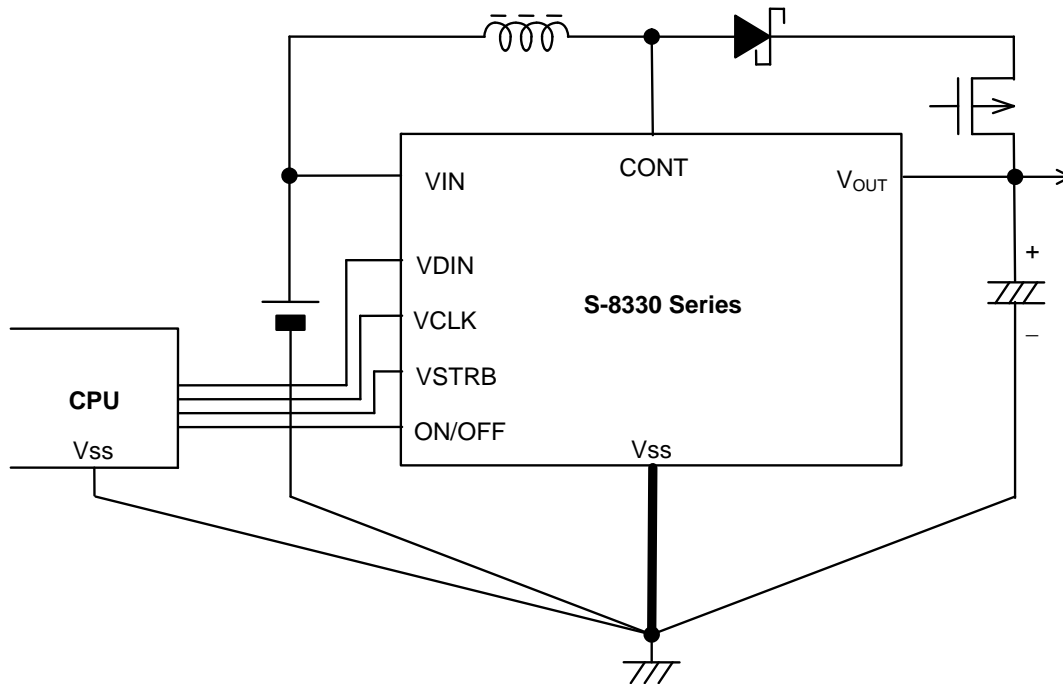

Figure 17 S-8330 Series Application Circuit
- ① S-8331A Series: The switching transistor is externally attached and the oscillating frequency is 180 kHz (typ.). Its target is the output current of 10 mA or more. High output voltage of 30 V or more is available by only attaching a simple external circuit to the S-8331A Series (see the S-8330 Series application circuit shown in Figure 17).
- ② S-8330A Series: The switching transistor is built in and the oscillating frequency is 180 kHz (typ.). Its target is the output current ranging from 1 mA to 10 mA. The oscillating frequency of the S-8330A Series is higher than that of the S-8330B Series. This minimizes ripple and ensures excellent transitory response characteristics.
- ③ S-8330B Series: The switching transistor is built in and the oscillating frequency is 50 kHz (typ.). Its target is output current of 1 mA or less. The self current consumption of the S-8330B Series is less than that of the S-8330A Series. This ensures high efficiency in the output current of about 0.1 mA or less.
- Configure parts and components so that the line to the VSS pin (indicated by the bold line shown in Figure 17) becomes short as much as possible. If a resistor and/or an inductance component stays on the line, the VSS potential of the IC varies depending upon the switching current.